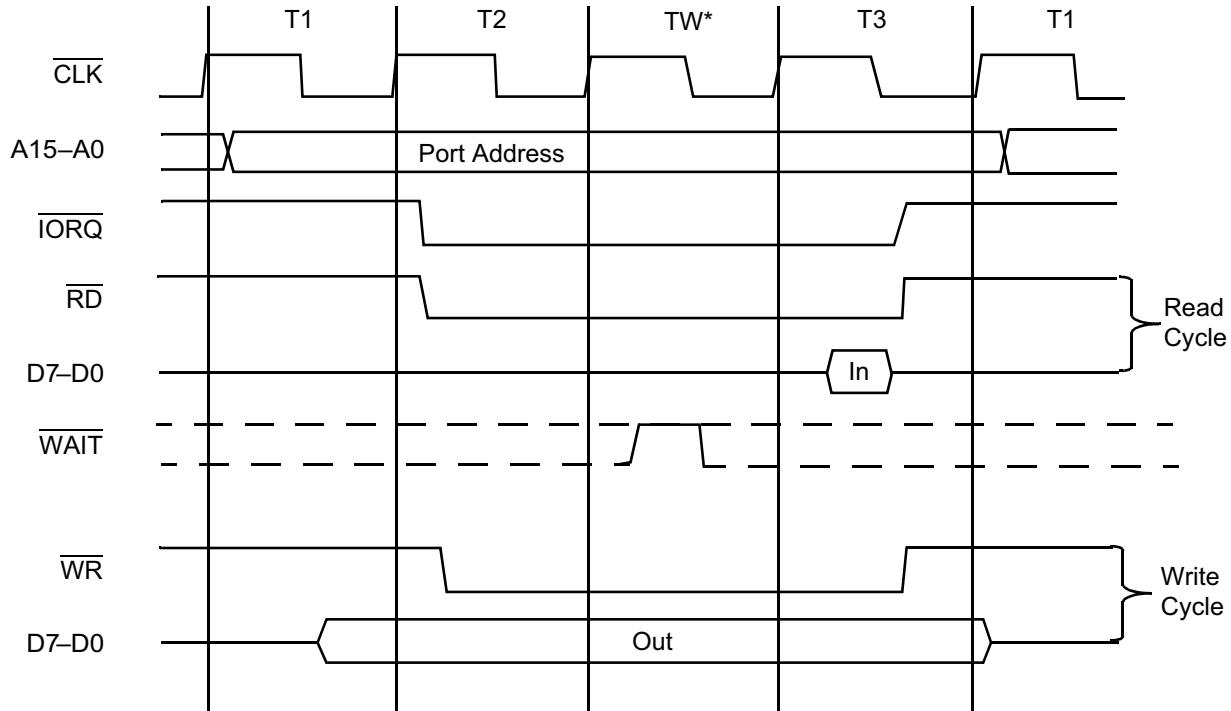

Figure 7. Input or Output Cycles
Figure 7 shows an I/O read or I/O write operation. During I/O operations, a single wait state is automatically inserted. The reason for this single wait state insertion is that during I/O operations, the period from when the \overline{IORQ} signal goes active until the CPU must sample the \overline{WAIT} line is short. Without this extra state, sufficient time does not exist for an I/O port to decode its address and activate the \overline{WAIT} line if a wait is required. Additionally, without this wait state, it is difficult to design MOS I/O devices that can operate at full CPU speed. During this wait state period, the \overline{WAIT} request signal is sampled.
► **Note:** *In Figure 7, TW is an automatically-inserted WAIT state.